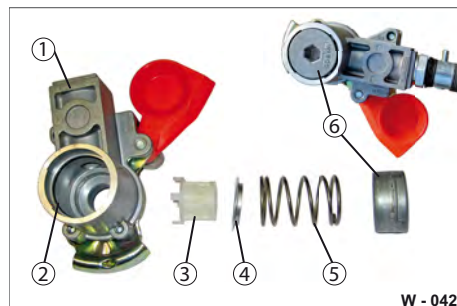

Fig. 46 Coupling head disassembled
- ▶ Press in the cover (Fig. 46/6) with a hexagon socket up to the limit position in the housing (Fig. 46/1). Turn the hexagon socket key by 90°.
- ▶ Remove the spring (Fig. 46/5), the metal ring (Fig. 46/4) and the filter (Fig. 46/3) from the housing.
- ▶ Check if the seal (Fig. 46/2) is present or damaged.